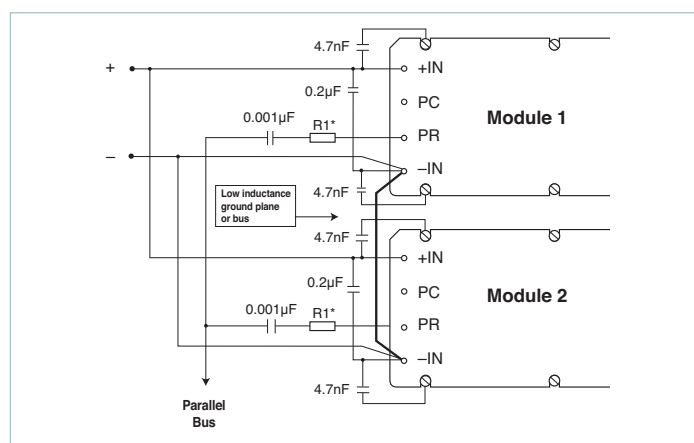

Figure 9 — AC coupled single-wire interface
**AC coupled single-wire interface.** All PR pins are connected to a single communication bus through 0.001μF (500V) capacitors. This interface supports current sharing and is fault tolerant except for the communication bus. Up to three converters may be paralleled by this method. See Figure 9.